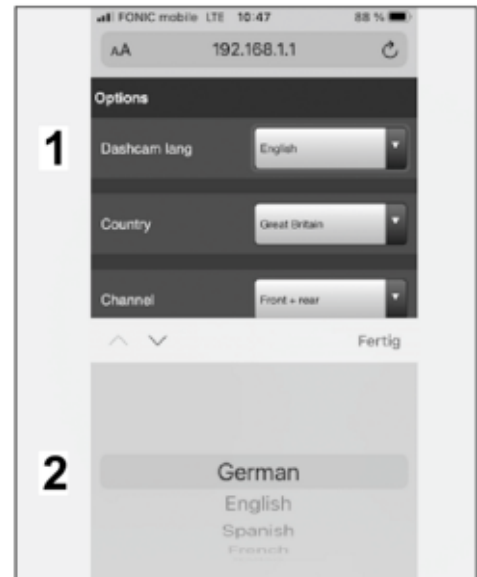

Figure 24
5.3 Basic settings for front camera (dashcam) in the "Options" menu item (⇒ *Figure 24*)
Example: German (⇒ Figure 24)